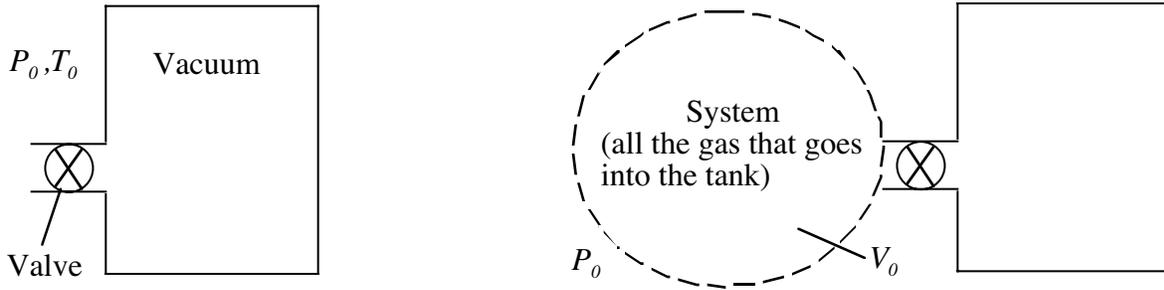

Figure 0-3: A transient problem—filling of a tank from the atmosphere
b) Another example of a flow process, this time for an unsteady flow, is the transient process of filling a tank, initially evacuated, from a surrounding atmosphere, which is at a pressure P_0 and a temperature T_0 . The configuration is shown in Figure 0-3.